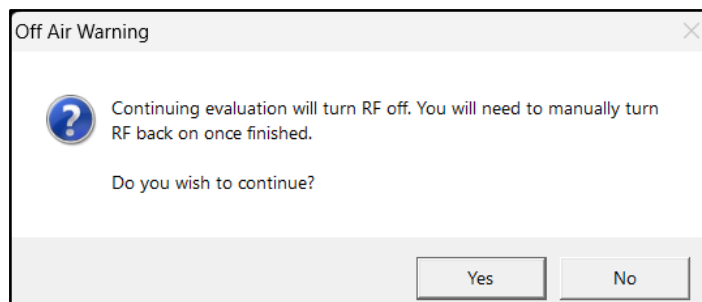

Figure 3: Off Air Warning pop up
- (g) Click the **Evaluate System/Transmitter** button to start the evaluation. A prompt may appear to indicate that RF is already off, and that you will need to turn it back on manually when finished. Click **Yes** to continue. If you start the evaluation in an RF On state, the pop-up in Figure 3 will appear indicating that RF will be turned off: